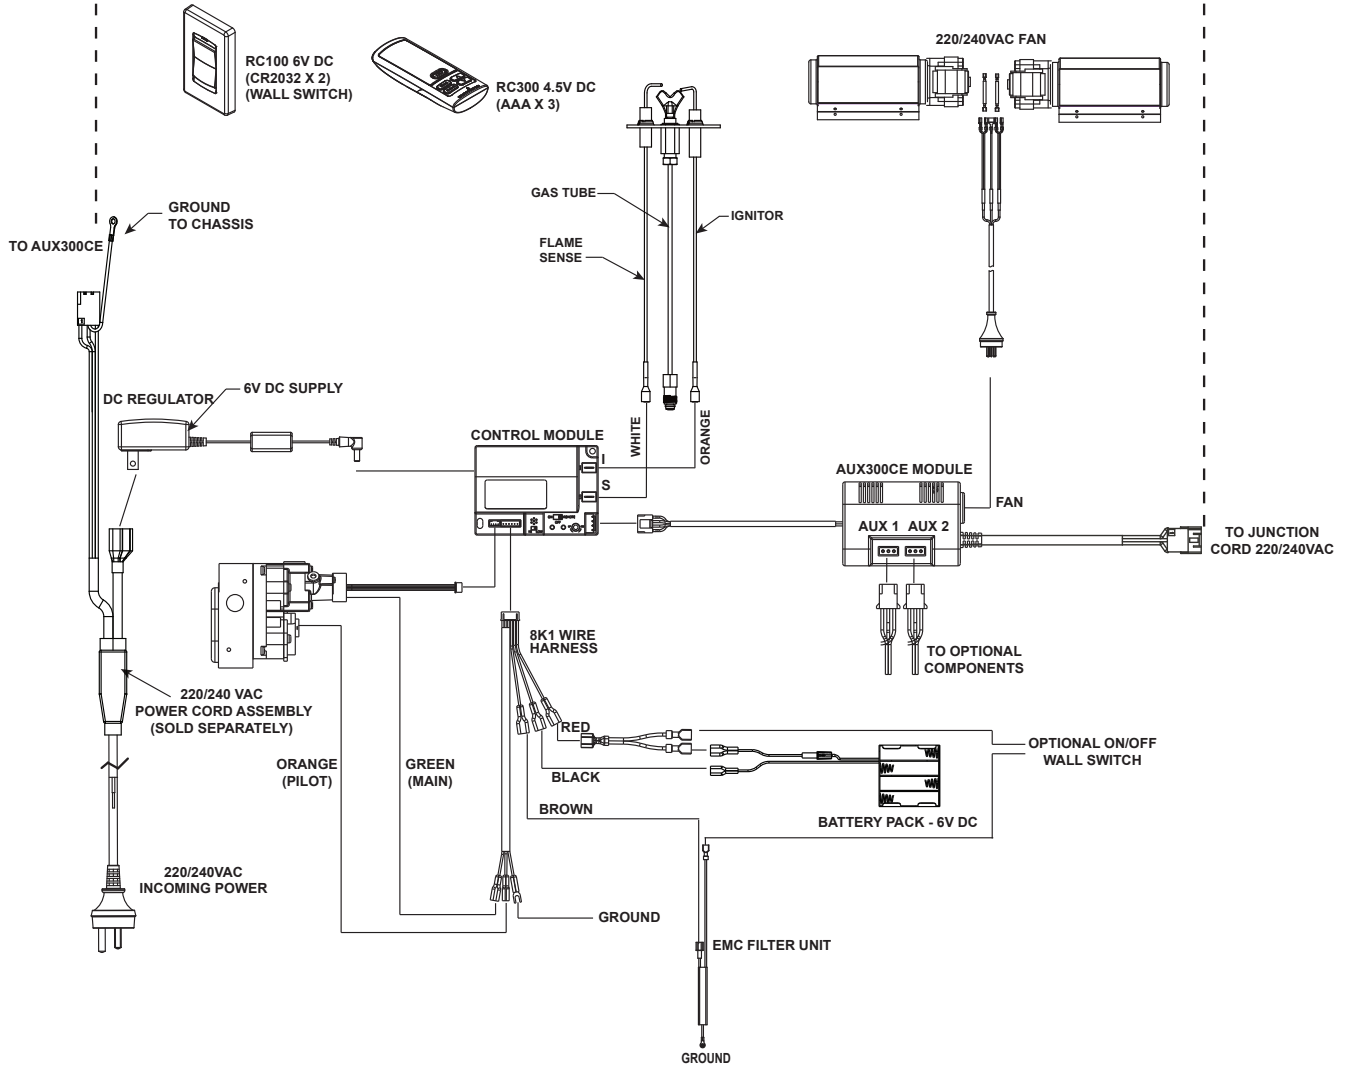

Figure 10.1 IPI Wiring Diagram RC300AU
- Refer to Figure 10.1, IPI Wiring Diagram.